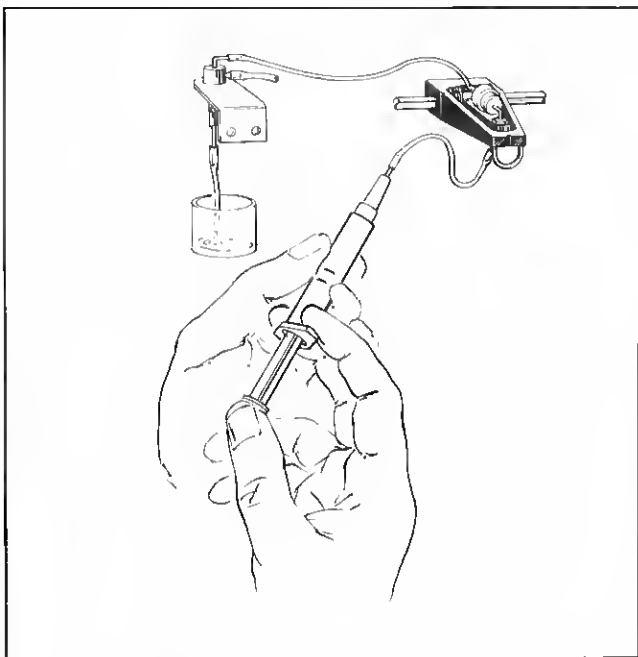

FIGURE 5-2. FLUSHING PEN SYSTEM
**5-14. PEN CLEANING.** Pen writing failure may be caused by dried ink, sediment, air bubbles in feed line, long disuse, or oil on the pen tip or paper. Dried ink forms brittle crust particles which can build up in the supply line to stop ink flow. Pen assemblies should be cleaned thoroughly at regular intervals (90 days) or before extended storage. (Clean by flushing the system as shown in figure 5-2 with a mild detergent and water, then rinse thoroughly with water and dry with air. The syringe can be used for all these operations.)